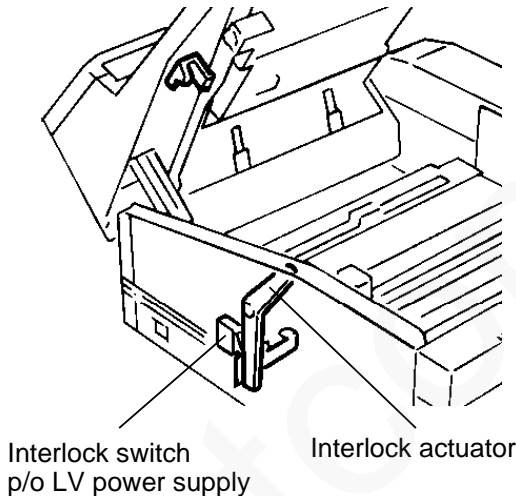

Figure 1. Top cover interlock
5. The top cover interlock actuator operates properly and the interlock switch on the LV power supply is fully closed when the top cover is latched (Figure 1).